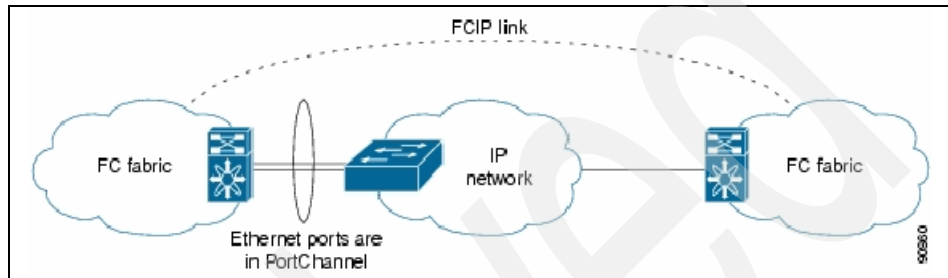

Figure 12-42 Ethernet PortChannel-based high availability
- This configuration has only one FCIP (E)ISL link.
- Figure 12-42 displays an Ethernet PortChannel-based high availability FCIP example. This solution addresses the problem caused by individual Gigabit Ethernet link failures.